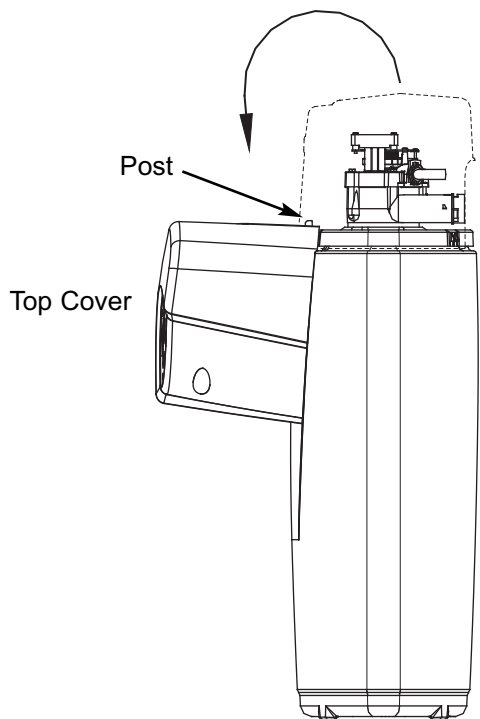

FIG. 5
3. Hang cover from post on front of rim, as shown in Figure 5. Avoid allowing cover to hang from wires.